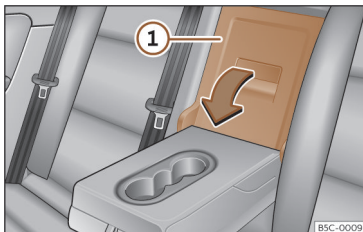

Fig. 193 On the rear seat backrest: opening the tailboard.
- Pull the release lever in the direction of the arrow and push the tailboard cover >>> Fig. 193 ① down and forwards.